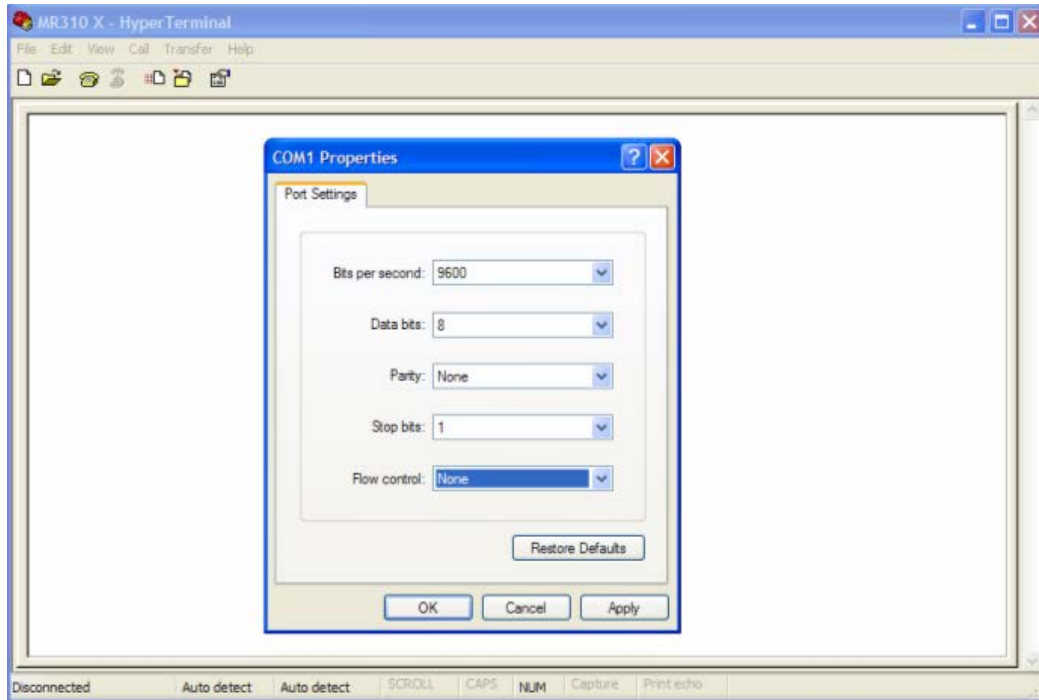

Figure 21. Set-up Parameters for HYPERTERMINAL Program.
- STEP 4.** Now start up *WINDOWS Hyperterminal* on your PC. Type in any character and you should see that character being echoed back on the *Hyperterminal* screen. As shown in Figure 21, configure *Hyperterminal* with the proper communication settings - - Bits Per Second (9600), Data Bits (8), Parity (None), Stop bits (1) and Flow Control (None).
- STEP 5.** If the above is successful, then we know that the computer does send out and receive back signals properly through the cable. Verify again that the *Hyperterminal* communication settings (see Figure 21) have been set correctly for communicating with the MR320 because *Hyperterminal* can send and receive with any mix of settings.